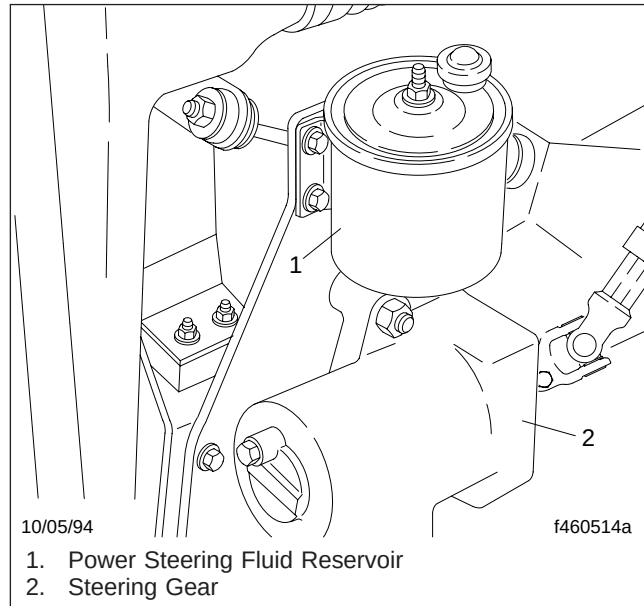

Fig. 3, Power Steering Reservoir
- Clean around the power steering reservoir dipstick (fill cap) with a clean rag, then remove the dipstick. See Fig. 3.
- Remove the dipstick, 3/8-16 hexnut, and cover. See Fig. 3.